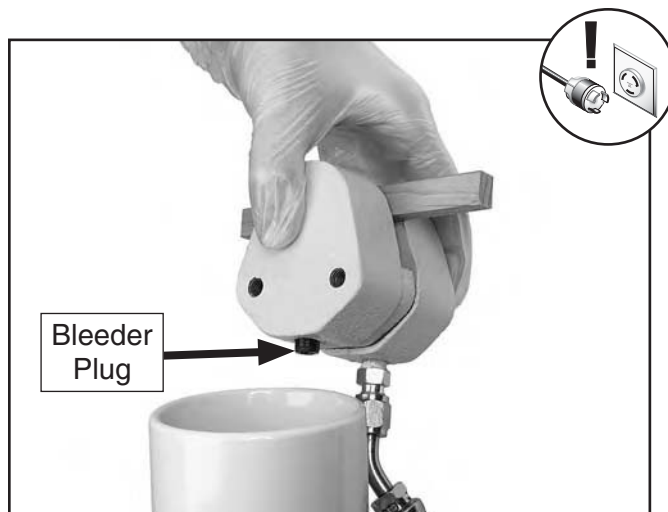

Figure 118. Preparing to bleed air from the brake system.
4. Place a small piece of wood between the brake pads that will fit tightly, as shown in **Figure 118**. This will keep the pads and pistons in place when pressure is applied to the system in the next steps.
6. Reach into the left stand and remove the brake fluid reservoir top to prevent making a vacuum in the brake line during the next steps (see **Figure 118**).
7. Position the bleeder plug over a container to catch the used brake fluid, as shown in **Figure 118**, then remove the plug.